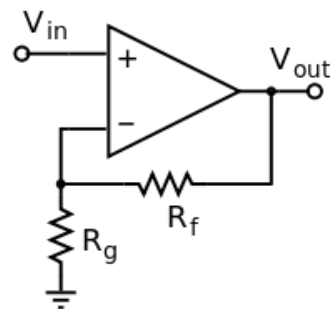

Figure 8
- Non-Inverting OP-AMP (Figure 8)